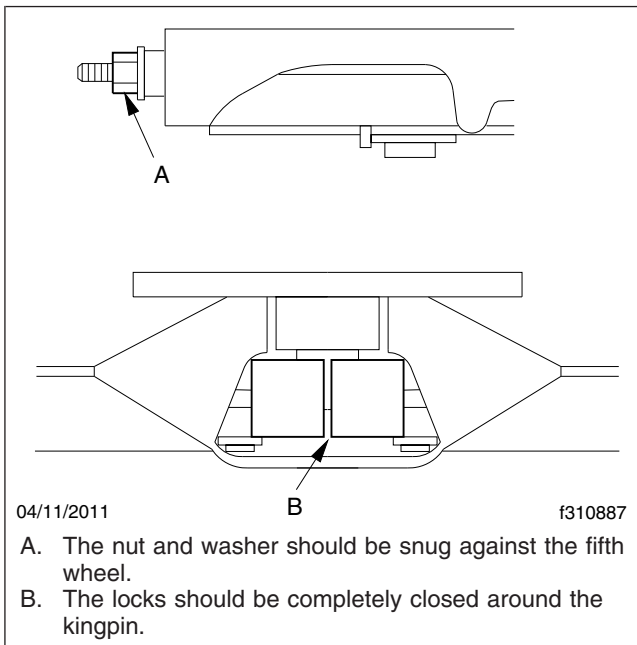

Fig. 4, Holland Fifth Wheel Properly Closed
6. Using a Holland Kingpin Lock Tester (Holland tool number TF-TLN-5001, available through the PDCs as HLD TFTLN5001), check the operation of the locking mechanism by opening and closing the locks. See Fig. 4.